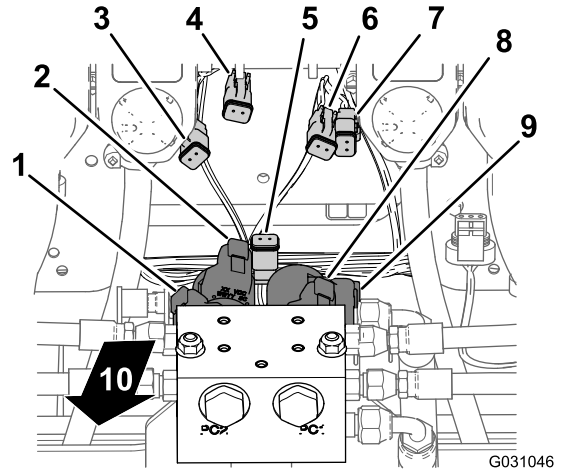
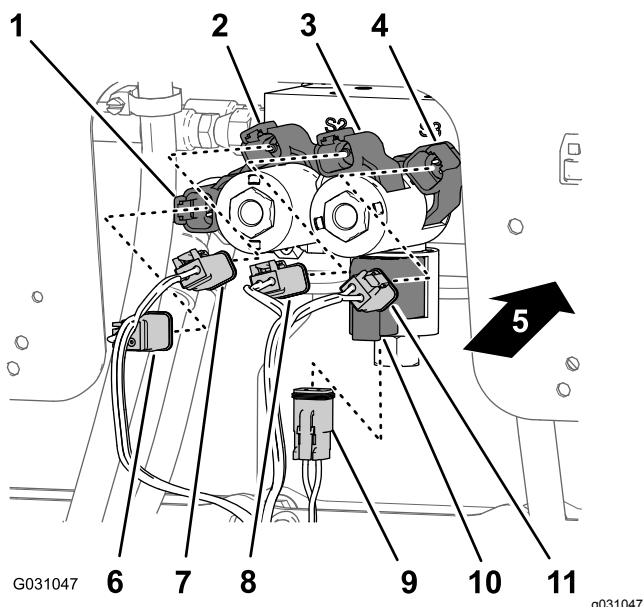

Figure 111
Figure 112
1. At the bottom of the lift-cylinder manifold, connect the 2-socket connector of the rear wire harness labeled **Enable Solenoid** into the 2-pin connector for the enable solenoid (Figure 111 and Figure 112).
- At the lower right solenoid, connect the 2-socket connector of the rear wire harness labeled **Right Down** into the 2-pin connector for the right down solenoid (Figure 111 and Figure 112).
- At the upper right solenoid, connect the 2-socket connector of the rear wire harness labeled **Right Up** into the 2-pin connector for the right up solenoid (Figure 111 and Figure 112).
- At the lower left solenoid, connect the 2-socket connector of the rear wire harness labeled **Left Down** into the 2-pin connector for the left down solenoid (Figure 111 and Figure 112).